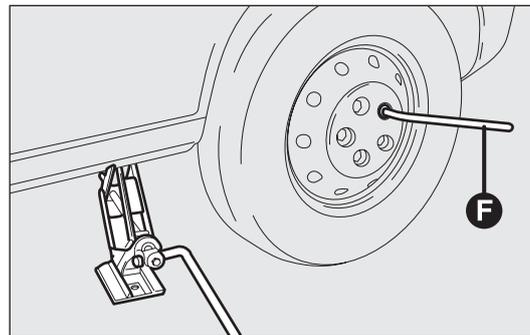

fig. 165
- fully unscrew the bolts using wrench F-fig. 165 and remove the wheel;